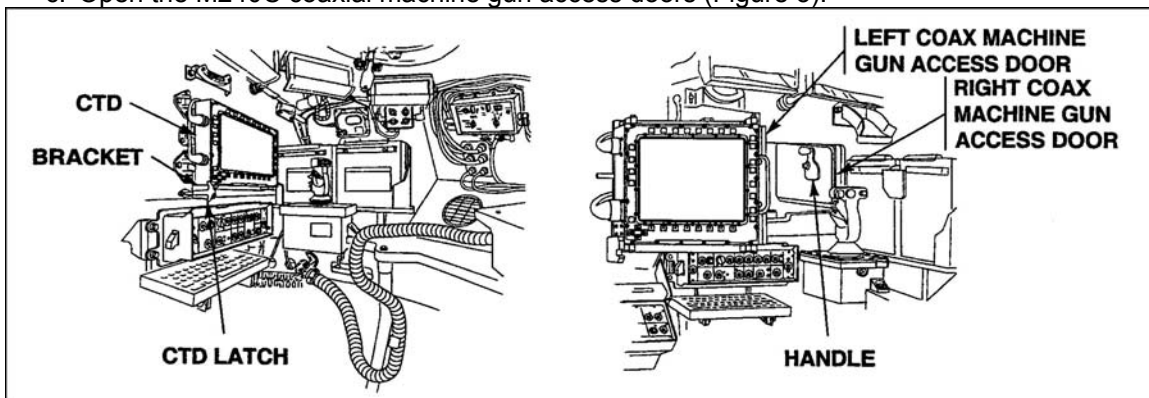

Figure 3. Coaxial machine gun access doors.
c. Open the M240C coaxial machine gun access doors (Figure 3).